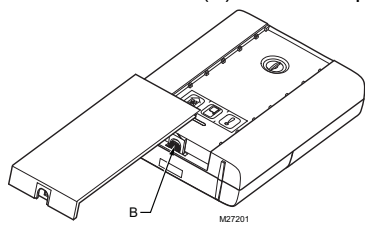

Fig. 4
Release the catch (B) and slide open the window (Fig. 4).